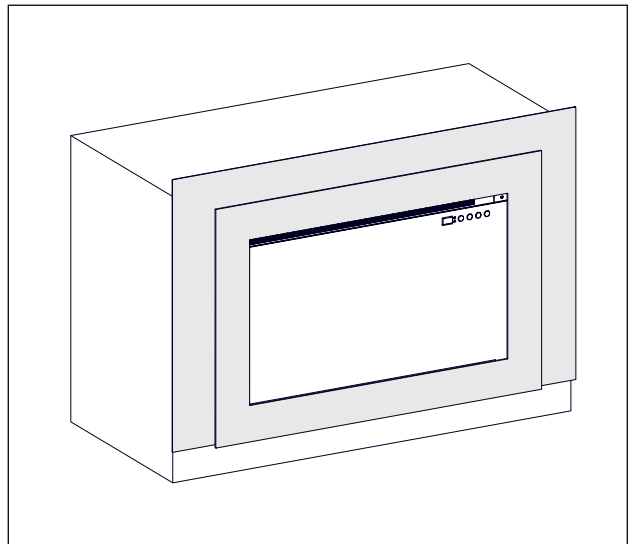

Fig. 5
- a. Attach the decorative faceplate / backer plate to conceal any gaps between the unit and the fireplace opening (**Fig. 5**). See “**STEP 8.3 - Finishing with a Backer Plate:**” on page 25.